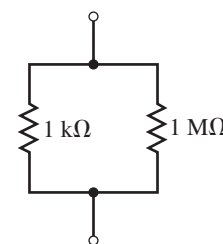

FIGURE 6-67
24. Without using a pencil, paper, or calculator, determine the approximate resistance of the network of Figure 6-67.